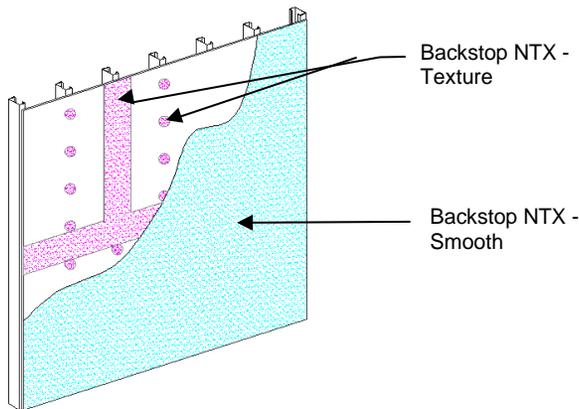

Figure 3
- 2) Backstop NTX - Smooth material should be applied in a uniform, continuous film at the recommended coverage rate – Figure 3. **NOTE: Sheathing substrates with a surface texture or high porosity will require additional material.**